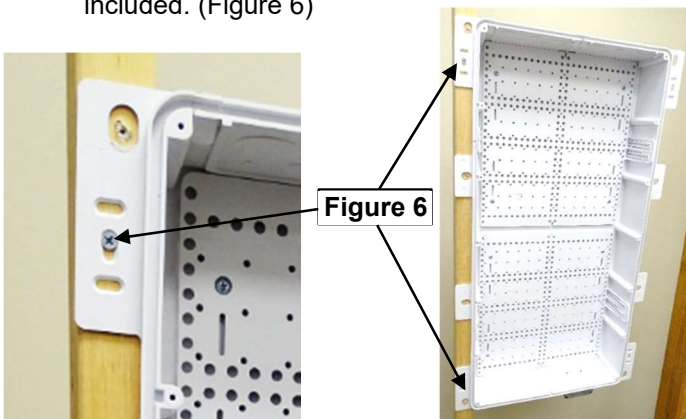

Figure 6
9. Determine which stud (left or right) the FMC base will be attached to and secure the unit through two mounting tabs (top and bottom) on the selected side using two #8 x 3/4" lg. flat head screws, included. (Figure 6)